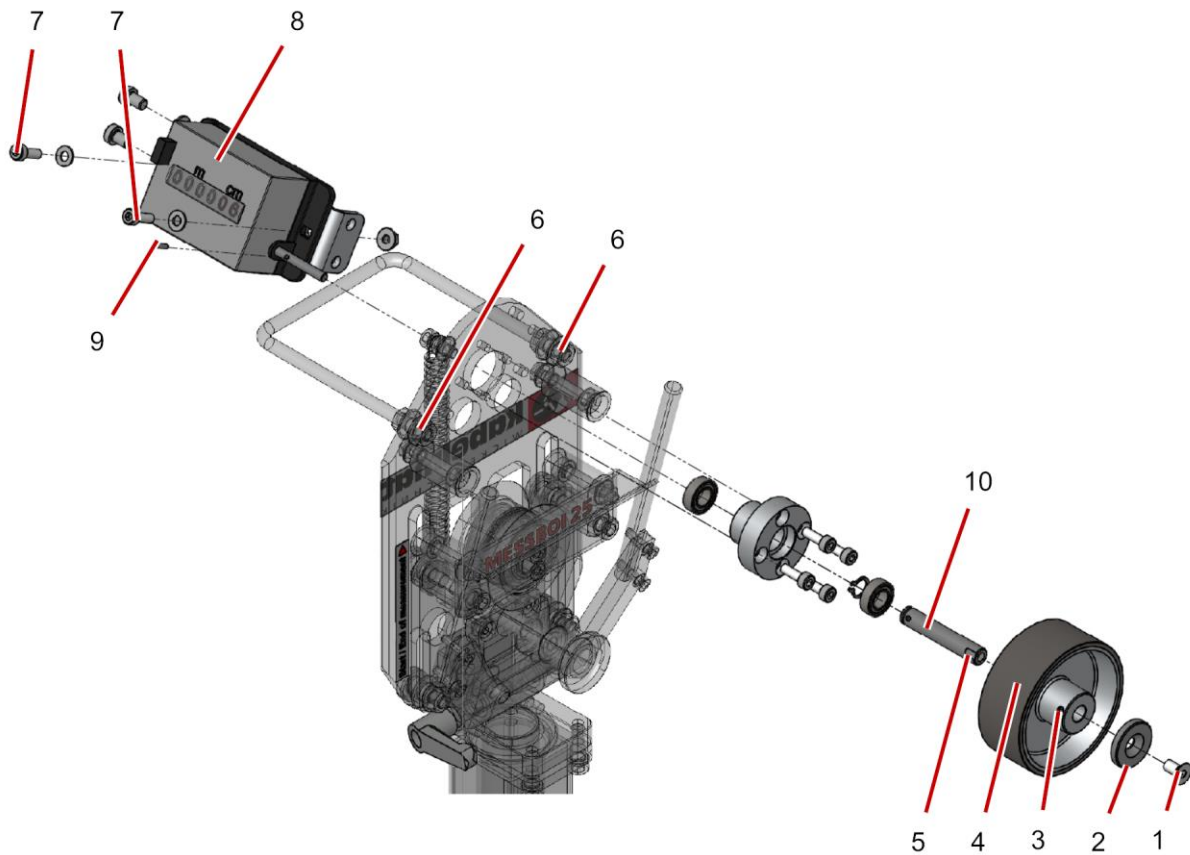

Fig. 11 Replacing the counter / measuring wheel MESSBOI 25
- ▶ Undo the countersunk screw Fig. 11, 1.
- ▶ Remove the countersunk screw and the countershaft pulley Fig. 11, 2.
- ▶ Undo the threaded stud Fig. 11, 3.
- ▶ Remove the measuring wheel Fig. 11, 4.
- ▶ Tighten the threaded stud. Ensure that the threaded stud is screwed against the width flat Fig. 11, 5.
- ▶ Undo the nuts Fig. 11, 6 on the handle and lower the handle.
- ▶ Undo the Allen screws Fig. 11, 7.
- ▶ Remove the counter Fig. 11, 8.
- ▶ Pull the cylindrical pin Fig. 11, 9 out and remove the shaft Fig. 11, 10.